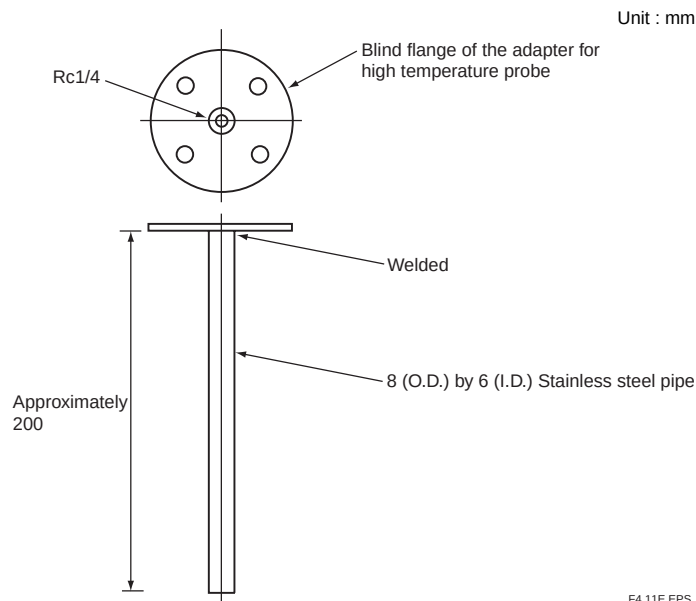

Figure 4.7 Blow pipe Construction
- Blow pipe (to be prepared as illustrated in Figure 4.7.)
Manufacture the blow pipe as illustrated in Figure 4.7, and mount it on the high-temperature probe adapter.